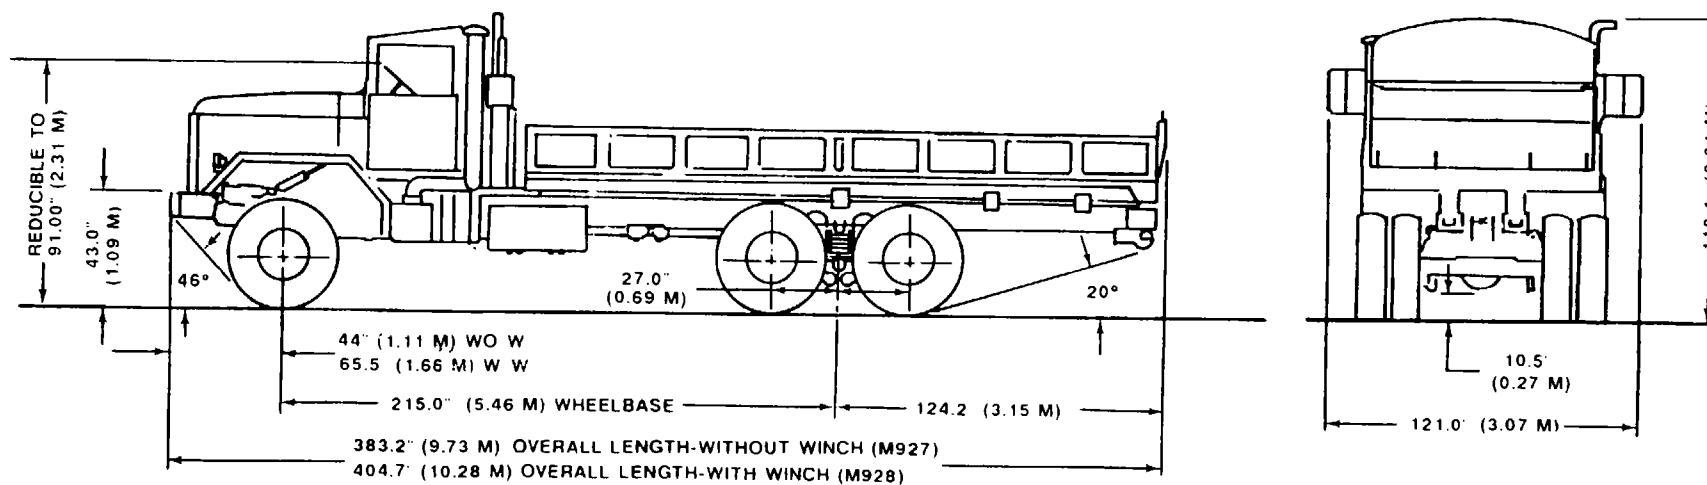

Figure 2-19. M927, 5-ton, 6 x 6 truck.
h. Communication Relay Group (CRG) AN/ MRC-137. The CRG is a shelter mounted on an M927, as shown in figure 2-17. The CRG shelter removed from the prime mover is shown in figure 2-18. The M927, a 5-ton, 6 x 6 truck, is shown in figure 2-19. The CRG is